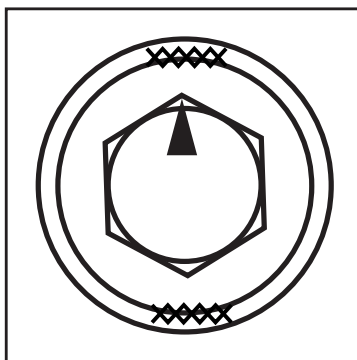

Figure 14.
4. Weld anti-turn washer over bolt head with 1/4” fillet welds at top and bottom (Figure 14).